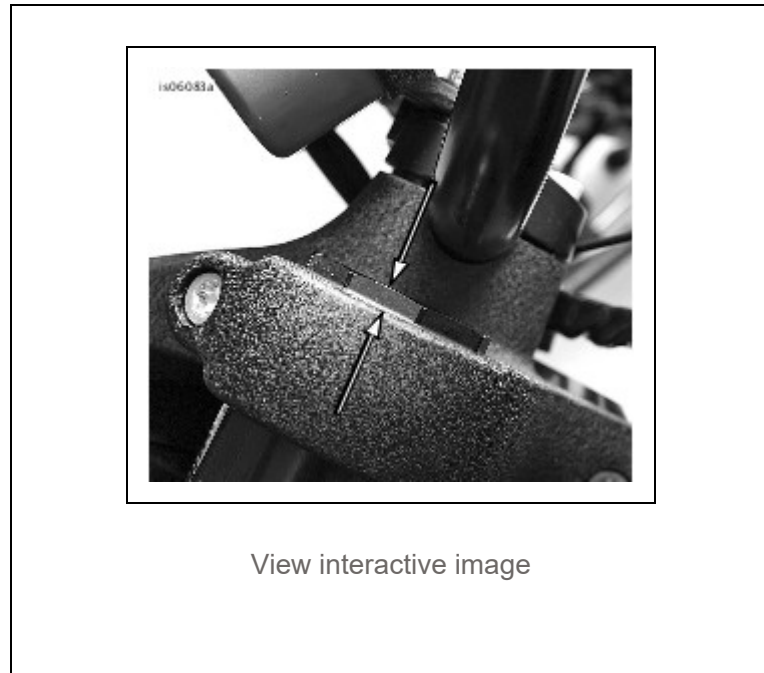
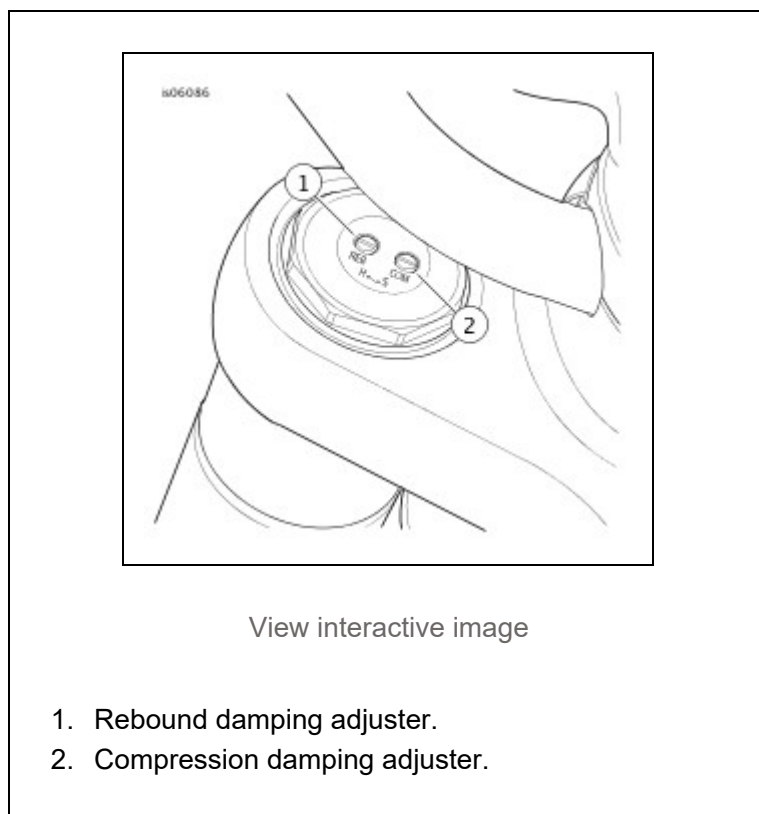

Figure 1. Fork Installation Height Measurement.
Figure 5. Fork Rebound and Compression Damping Adjusters
2. See Figure 1. Measure the distance from the top of upper fork bracket to top of fork assembly. Both sides must be exactly the same and measure 0.388-0.468 inch (9.85-11.89 mm) above the top fork bracket. Align the adjustment screws inline with the handlebars (see Figure 5).
- a. See Figure 5 and Table 2. Turn the rebound damping adjuster clockwise until it stops. This is the maximum rebound damping setting.
- a. See Figure 5 and Table 2. Turn the compression damping adjuster clockwise until it stops. This is the maximum compression damping setting.